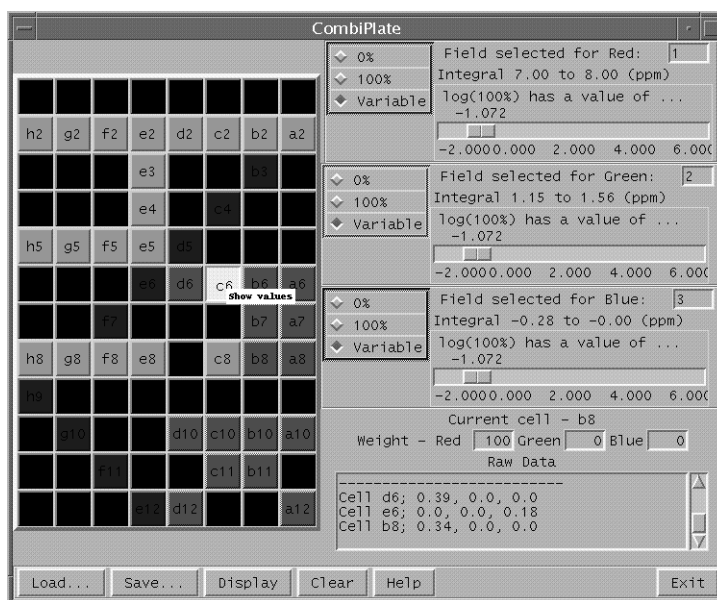

Figure 90. CombiPlate Display - Binary Display For Each Region
- a. Set all the *log(100% color intensity)* slider bars to ($\log(100\%) = -2.000$). This will set up a binary condition. The display in Figure 90 is set up to turn on the color of a given region only if there is a positive integral for that region.
- Individual spectra can be examined by selecting and clicking on the cell of interest. In **Figure 90** cell c6 has been selected. The cell is white and the label “Show values” is displayed. The spectrum and inset spectral regions are displayed in the vnmr window. This feature is active only when vnmr is active and CombiPlate is started from combi_show on the vnmr command line.